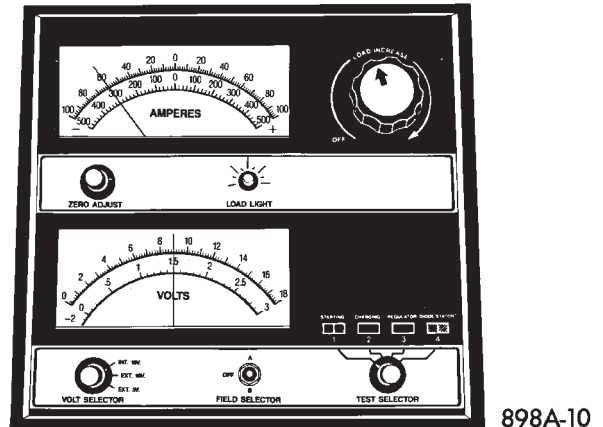
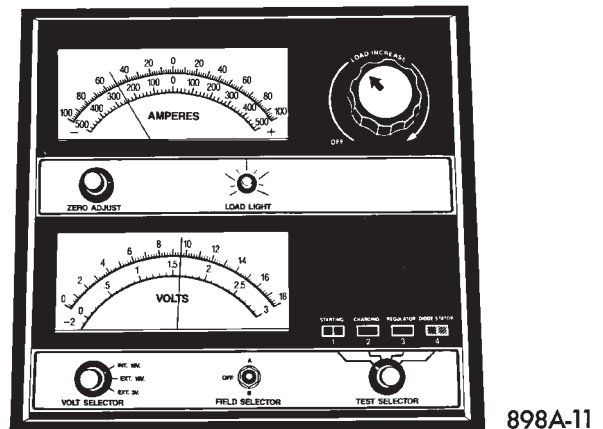

Fig. 11 Remove Surface Charge from Battery
Fig. 12 Load 50% Cold Crank Rating
(3) Rotate the load control knob of the Carbon pile rheostat to apply a 300 amp load. Apply this load for 15 seconds to remove the surface charge from the battery, and return the control knob to off (Fig. 11).
(4) Allow the battery to stabilize for 15 seconds, and then verify open circuit voltage.
(5) Rotate the load control knob on the tester to maintain 50% of the battery cold crank rating for a minimum 15 seconds (Fig. 12).